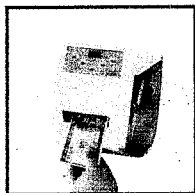

Figure 5
- Place the bill to analyze in the UV verification slot (see Figure 5).